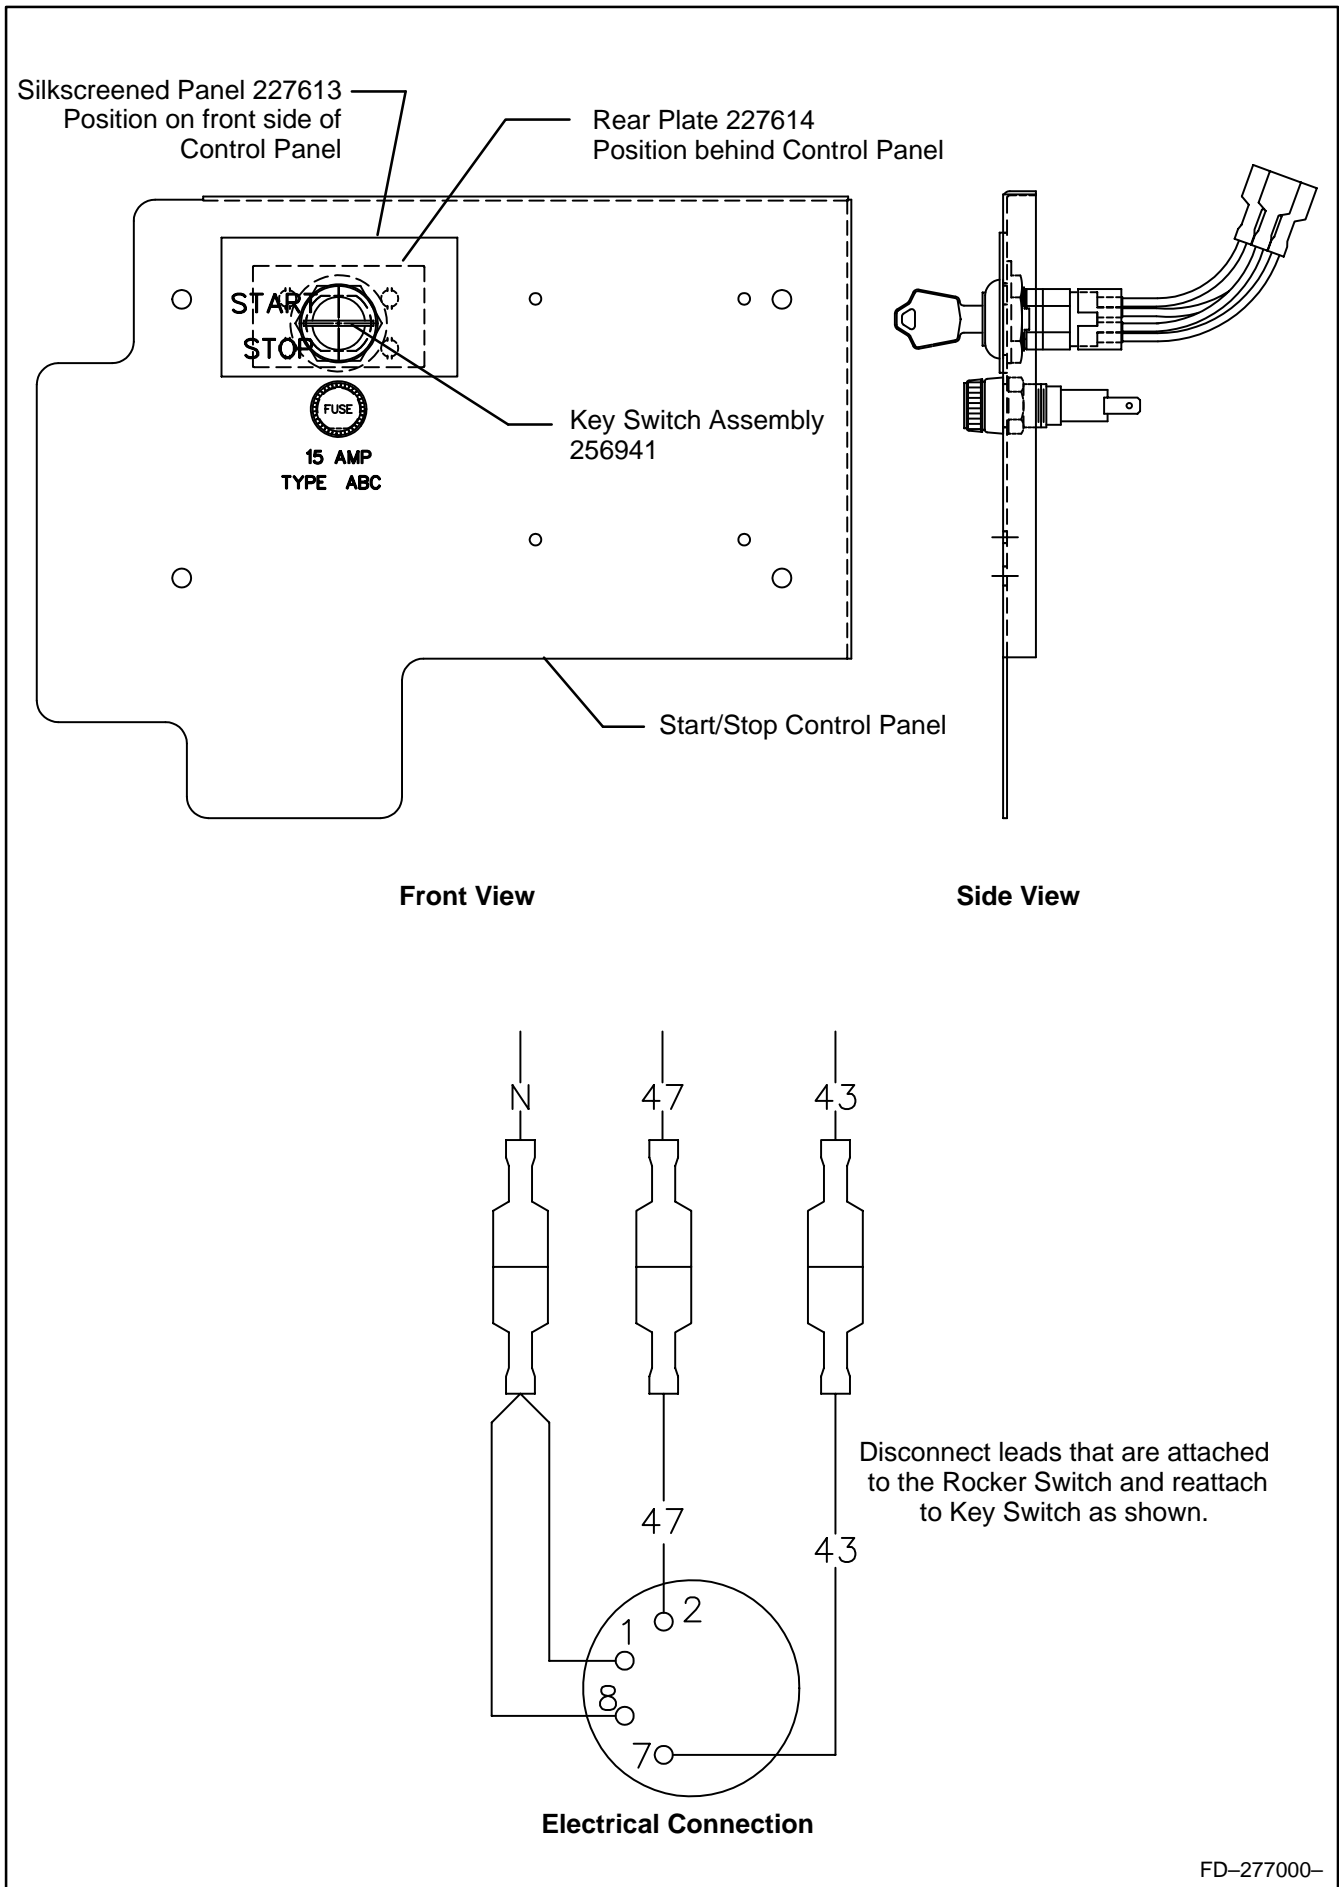

Figure 1. Key Switch Installation
The key switch kit is intended to insure safe operation of the generator set. A key is required to start and stop the unit. The installation procedure involves removing the rocker type start/stop switch and replacing it with a key switch. Observe the following safety precaution while installing the kit and reference Figure 1.
10. Reconnect key switch leads 43, N, and 47 respectively to the controller harness. See Figure 1, Electrical Connection.